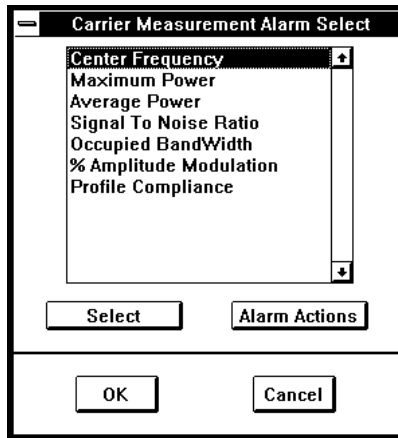

Figure 6-10: Carrier Measurement Alarm Select Dialog Box
5. If alarm definition is required, click on **Define Alarms** to open the **Carrier Measurement Alarm Select** dialog box (Figure 6-10).